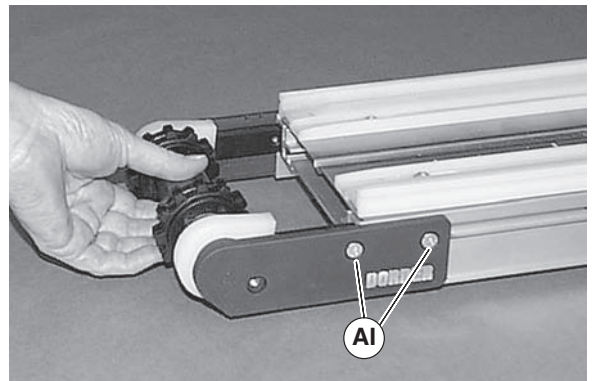

Figure 29
1. On side of conveyor, loosen two (2) fastening screws (Figure 29, item AI). Remove head plate and spindle at the same time.